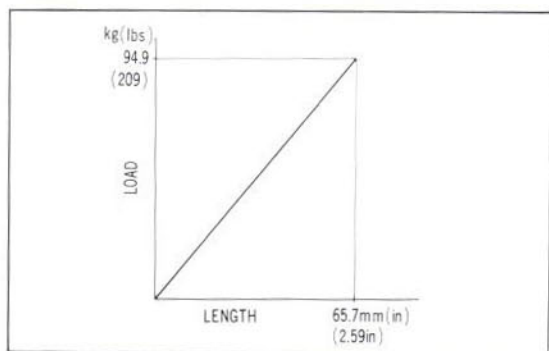

Fig. 4.11 Front cushion characteristic
5. Front cushion characteristic. (Fig. 4.11)